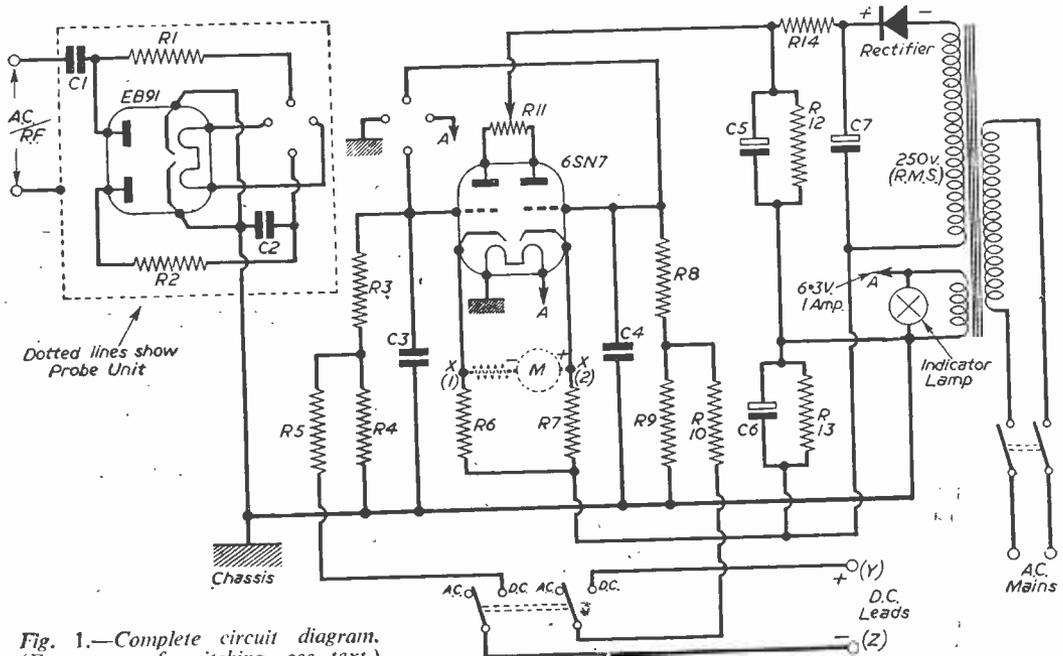
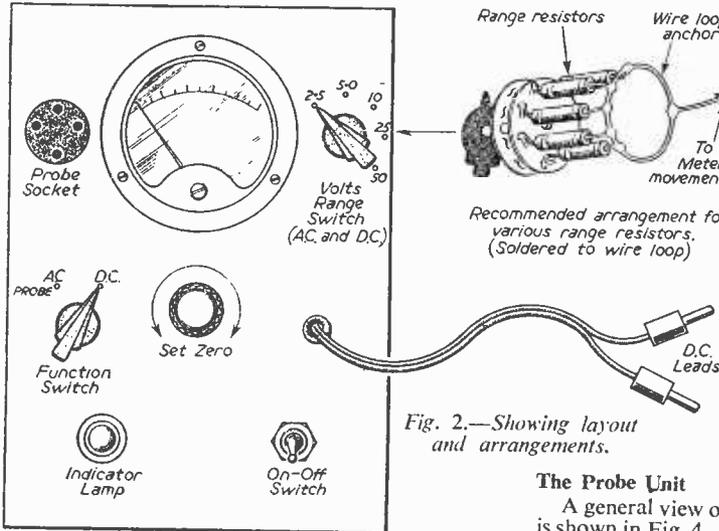
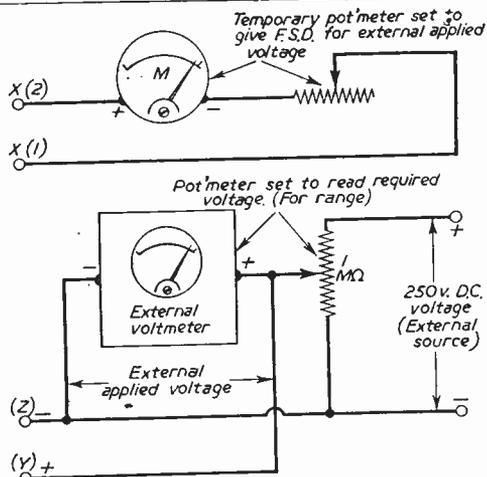

Fig. 1.—Complete circuit diagram. (For range of switching—see text.)
Fig. 2.—Showing layout and arrangements.
Fig. 3 (above).—Method used for calibrating various meters (100μA—500μA). Fig. 4 (right).—General view of probe (made from a mustard tin).
The circuit diagram is given in Fig. 1, and it will be noted that the meter movement is shown in dotted lines between points marked X(1) and X(2). These actual arrangements are discussed later, where it is proposed to give *practical directions* for utilising any meter movement having F.S.D. of between 100 and 500 microamps. This was undertaken in view of the expensive nature of this item and it is left to the individual to decide what he can afford. The range switch has been omitted from the circuit as this is a simple single-pole type in series with the meter movement (the number of contacts depending on the number of ranges required by the individual). Fig. 2 shows this switch together with the author's layout.
The arrangement of Fig. 3 is such as to "tie up" with the circuit diagram proper. The D.C. valve voltmeter leads have been marked (Y) and (Z) to give correct polarity when 6SN7 valveholder is wired strictly in accordance with valve base diagrams (*not* given).
This arrangement (Fig. 3) will be familiar to all those who have "compared" the calibration of one meter against another and the system is strictly analogous. The position shown in Fig. 2 for the range switch should temporarily be occupied by a 50K potentiometer (from "spares" box) for calculating the resistors necessary for lower ranges of volts. A flying lead with crocodile clip is taken from "arm" of potentiometer to negative terminal of meter movement; the clip facilitates removal for measuring